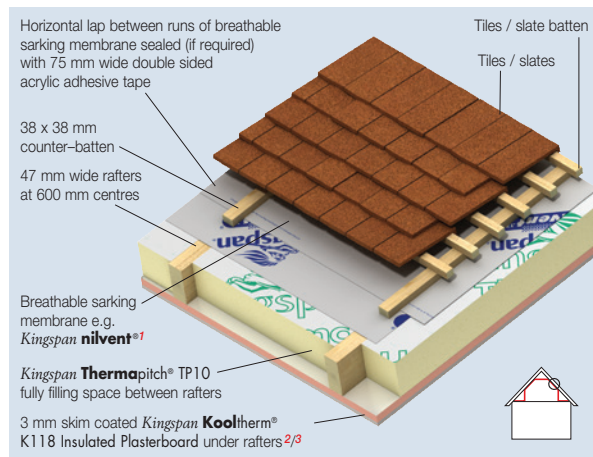

Figure 1a
*NB When calculating U-values to BS EN ISO 6946: 2017 / I.S. EN ISO 6946: 2007, the type of mechanical fixing used may change the thickness of insulation required. The effect of fixings for Kingspan **Kooltherm**® K118 Insulated Plasterboard in the U-value calculations for Figures 1a, 1b, 1c, 1d, 2a, 2b, 4a & 4c is insignificant as the insulation layer penetrated is not the main insulation layer. The U-value calculations for Figures 3a & 3b assume that over rafter layers of insulation are fixed using stainless steel fixings with a cross sectional area 7.90 mm2, with 3.7 fasteners per m2 (insulant thickness 0–40 mm), 6.2 per m2 (insulant thickness 41–60 mm), 8.3 per m2 (insulant thickness 61–80 mm) and 10.0 per m2 (insulant thickness 81–100 mm). The U-value calculations for Figures 3a & 3b also assume that over rafter layers of insulation are fixed using stainless steel fixings with a cross sectional area 9.1 mm2, with 11.1 fasteners per m2 (insulant thickness 101–125 mm). Please contact the Kingspan Insulation Technical Service Department (see rear cover) for project calculations.*
- 1 In Figures 1a & 3a the breathable sarking membrane can be placed over the counter-battens, draped to provide for drainage and overlain with tile / slate battens. This will yield a marginally better U-value but it will be more difficult to seal the breathable sarking membrane effectively.